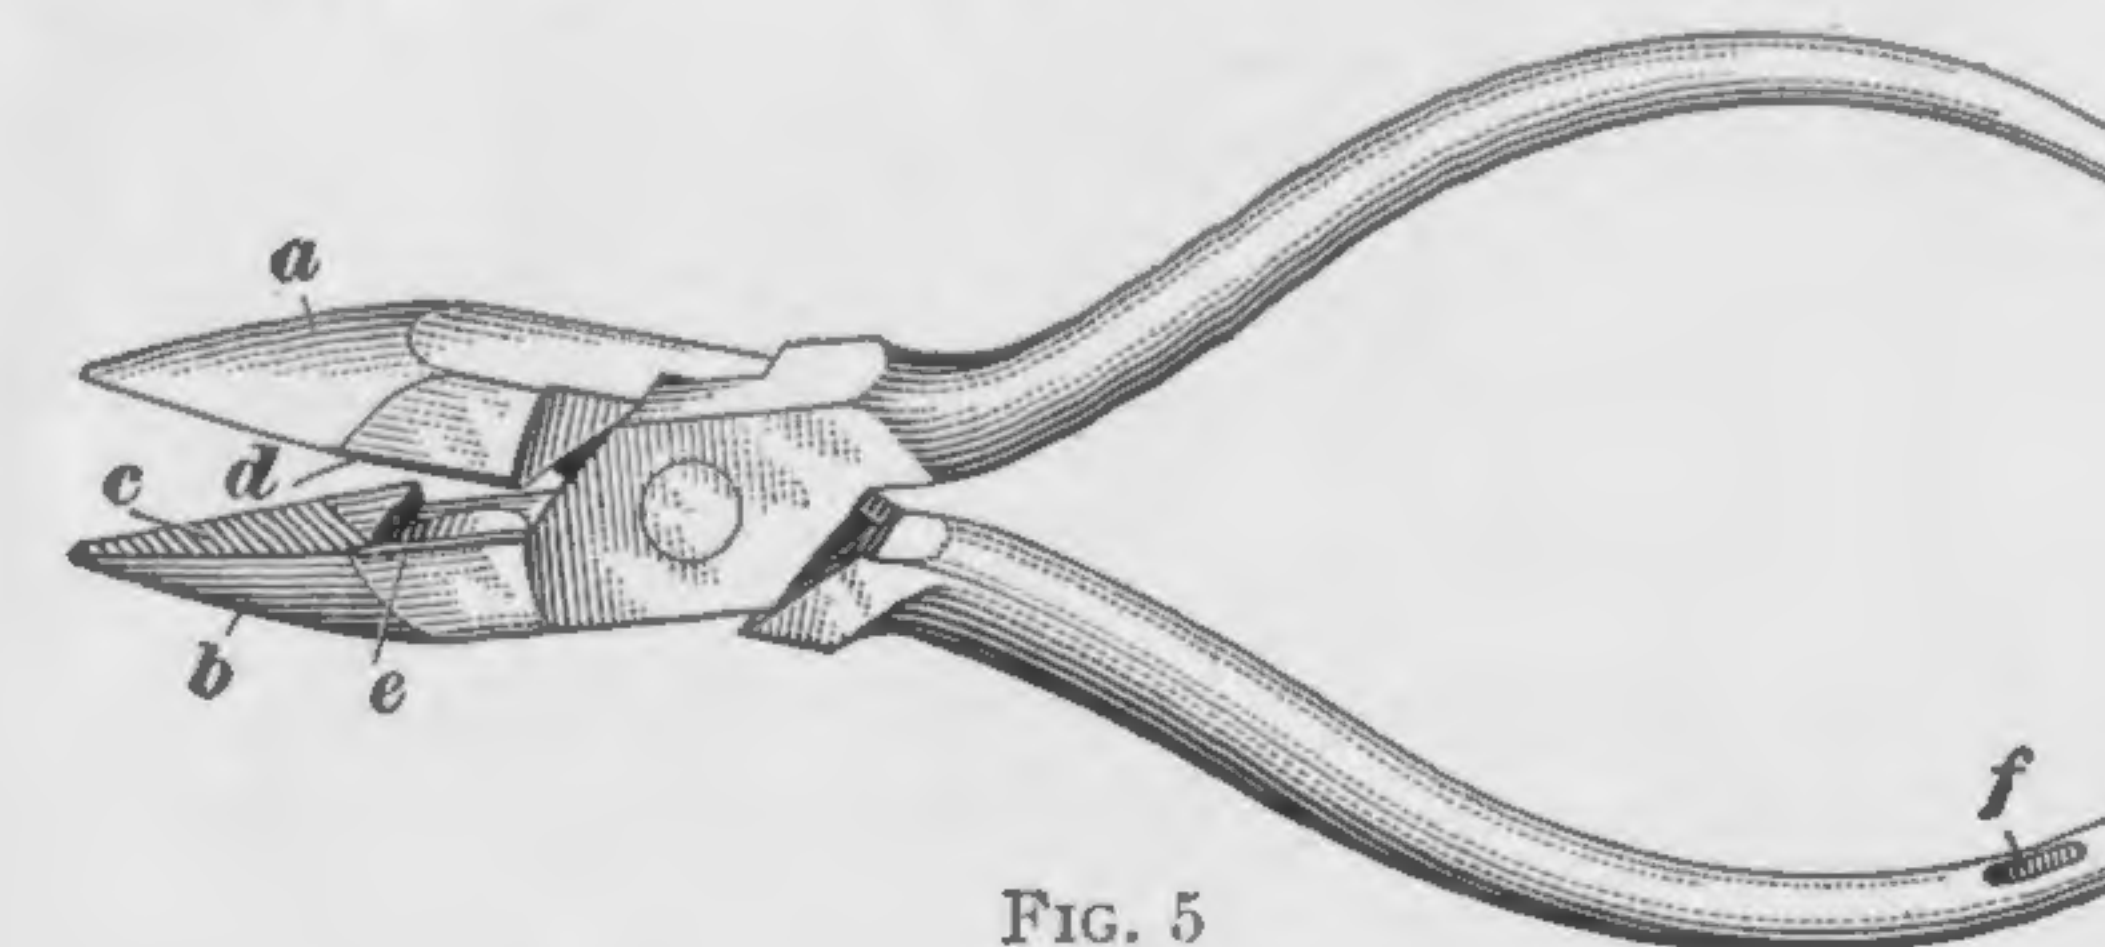

FIG. 5
11. The tool used for bending, twisting, and cutting wire when making frames is the **pliers**, shown in Fig. 5. The jaws *a* and *b* are roughened on the inner faces, as at *c*, so that they will not slip when gripping and twisting wires. At *d* and *e* are a pair of sharp cutting edges that are used for cutting wire. The hole *f* in the handle enables a cord or a ribbon to be tied to the pliers so that they can be hung